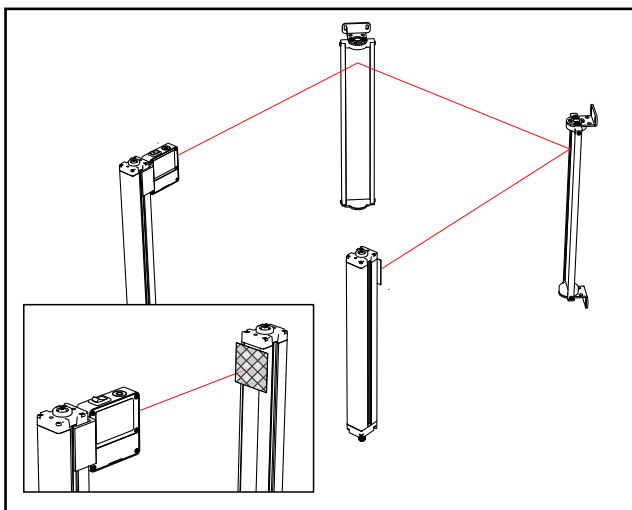

Figure 3-13. Optical alignment using the LAT-1
For situations where alignment is difficult, a **LAT-1-SS Laser Alignment Tool** can be used to assist or confirm alignment by providing a visible red dot along the sensor's optical axis (see Figure 3-13).
**NOTE:** A LAT-1-SS Laser Alignment Tool is very helpful by providing a visible red dot along the optical axis. See Figure 3-13 and Banner Safety Applications Note SA104 (P/N 57477) for further information.